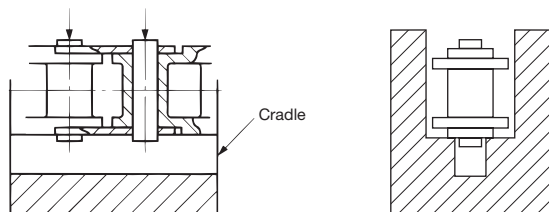

Figure 15: Cross Section Showing Poly Steel Chain Set in Cradle
- 1) Place the outer plate of the chain in a cradle, position a special punch on the head of the pin (see photo in Figure 16 below), and lightly strike with a hammer (Figure 15).